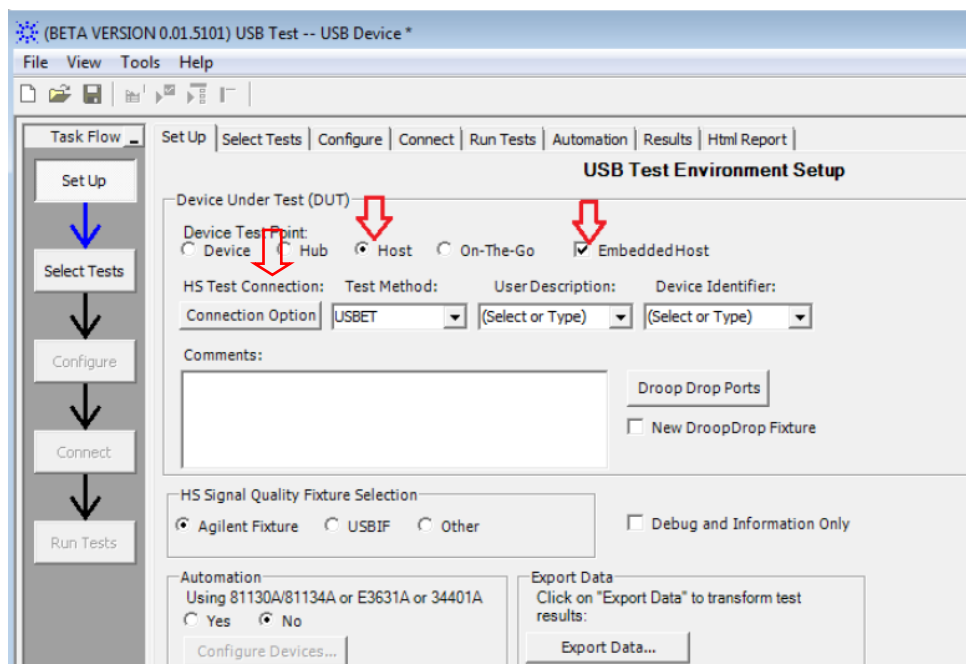

Figure 61. Select Embedded Host for HS Electrical Test¹
1. Select the test items in the USB Automated Test software on the oscilloscope as shown in Figure 61. Make sure to set the Test Type configuration option to Hi-Speed Near End before running the test.